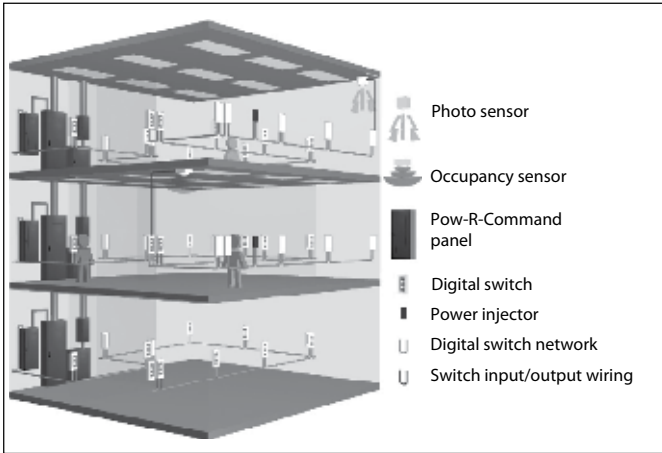

Figure 3-13. Lighting control in a commercial building
- Layout panel as shown in **Figure 3-13**. Total "in." determine box height shown in **Table 3-42** (When total "in." units exceeds the number shown, use next size box size).
- Layout information from **Figure 3-13**.